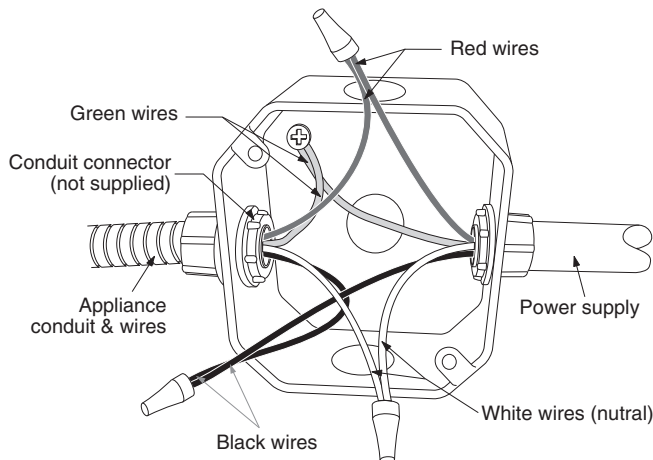

Figure 17
- 2 In the junction box connect the appliance and residence cable wires as shown in Figure 17.